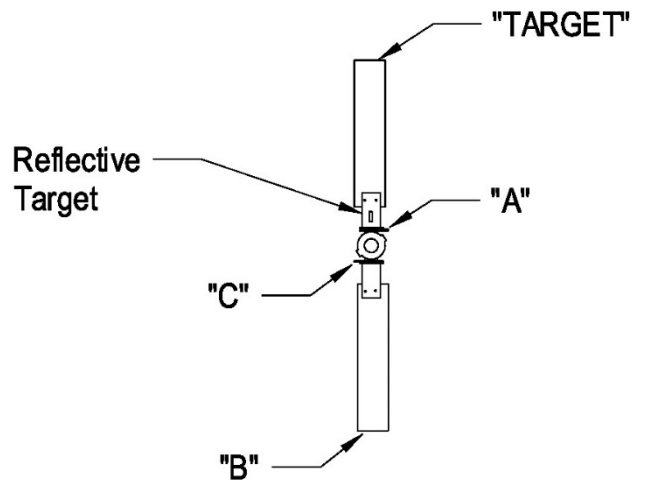

Figure 10-12. Tail Rotor Clock Angle Correction Example
- (4) Add a small washer (AN960-10L) to the tip at "B".
- (5) Run helicopter again and record the ips reading and clock angle. In this example the following results were obtained: Run 2, 4.5 ips @ 6:30 clock angle.
- (6) Plot Run 2 on the chart (Fig. 10-12).
- (7) Since the move line between Run 1 and Run 2 did not follow the chart in the expected direction, a correction must be made to the positions of the tip weight line and pitch link weight line relative to the clock orientation.
- (8) Drawn a line between plot 1 and plot 2. Label the line "add B".
- (9) Rotate tip weight line approximately 45° clockwise to reflect the actual results of the first weight change.